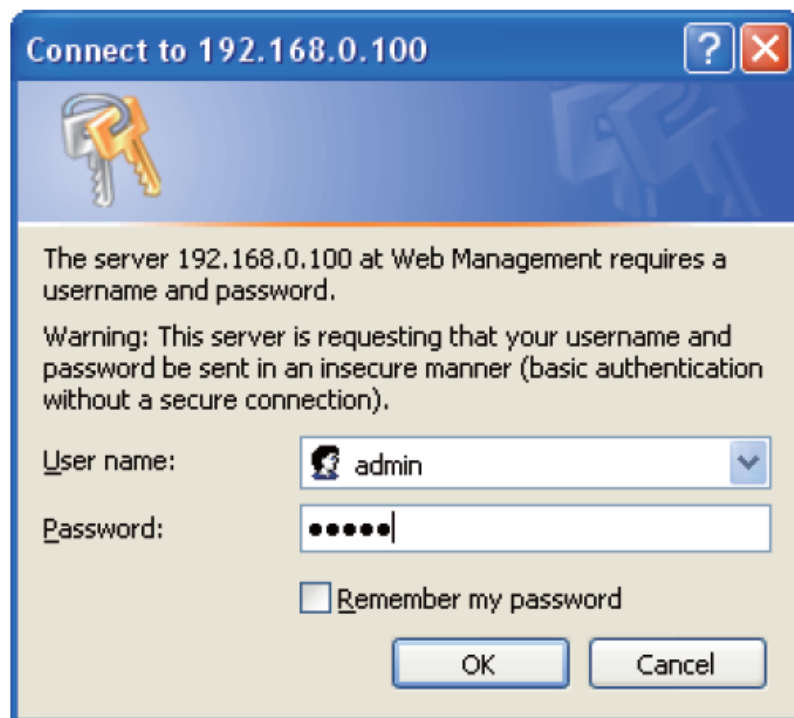

Figure 9-2: Login Screen
2. The following console screen is based on the firmware version before May of 2025. password “admin”. The login screen in Figure 9-2 appears.